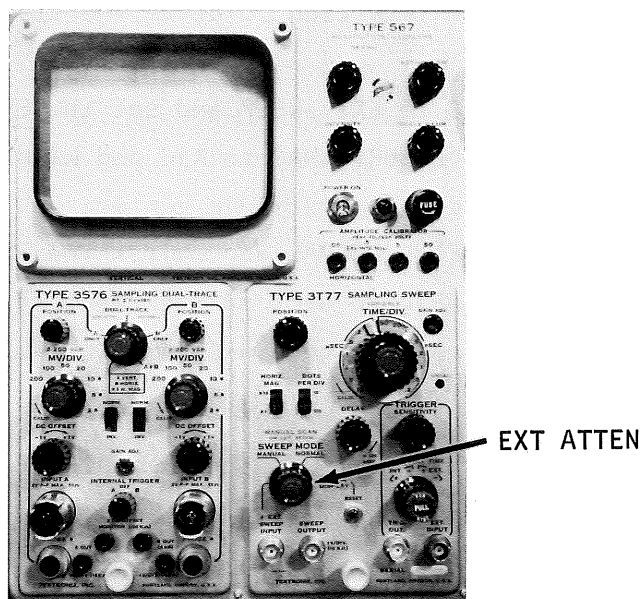

Figure 4-6
3. Adjust the EXT ATTEN, See Figure 4-6, for 30v as measured at the center tap.